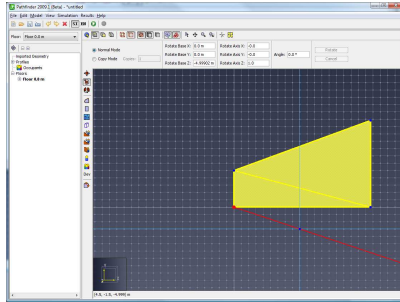

Figure 154. Base point of rotation
- The first specifies the base of rotation (Figure 154).